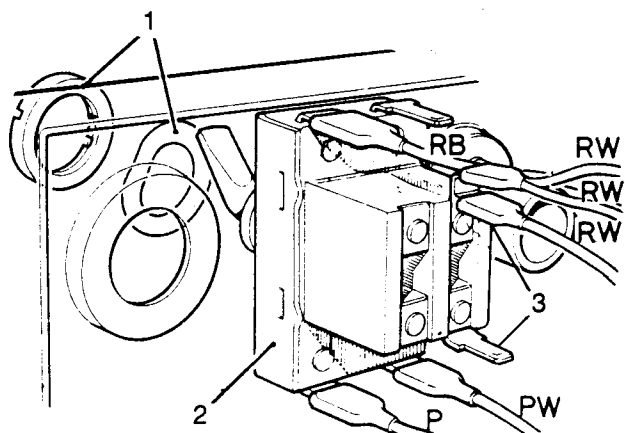

Fig O5.17
- (3) Refer to Fig O5.17. Unscrew the lock ring (1) and remove it and the wave washer (1) from the switch knob.
(4) Disconnect the leads from the back of the switch.
(5) Withdraw the switch (2).